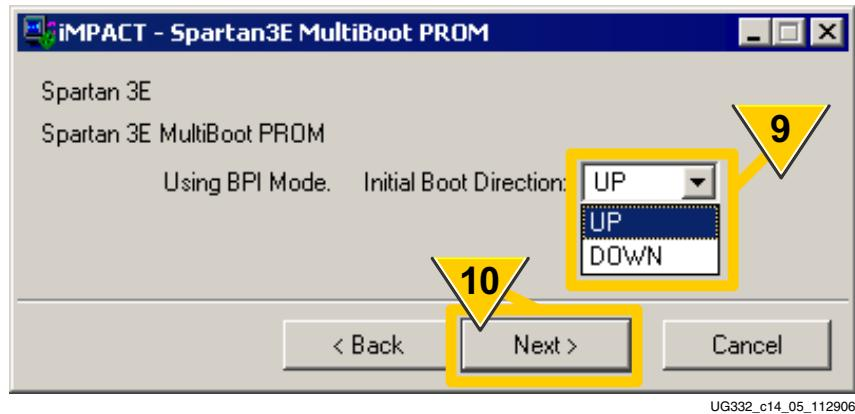

Figure 14-4: Select the Configuration Direction of the First MultiBoot Image
9. As shown in Figure 14-4, select the **Initial Boot Direction**. This is the location from where the first configuration image loads. The initial location depends on the BPI mode pin settings.